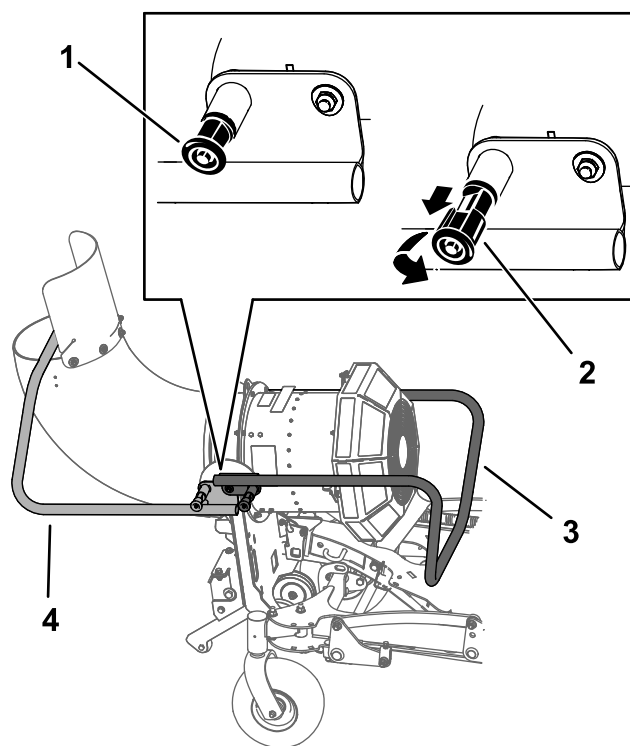

Figure 17
4. Pull out the kickstand locking pins on both sides of the machine, rotate them 90 degrees so that they are disengaged, and rotate the kickstand away from the machine (Figure 17). Engage the pins and ensure that they snap into position.